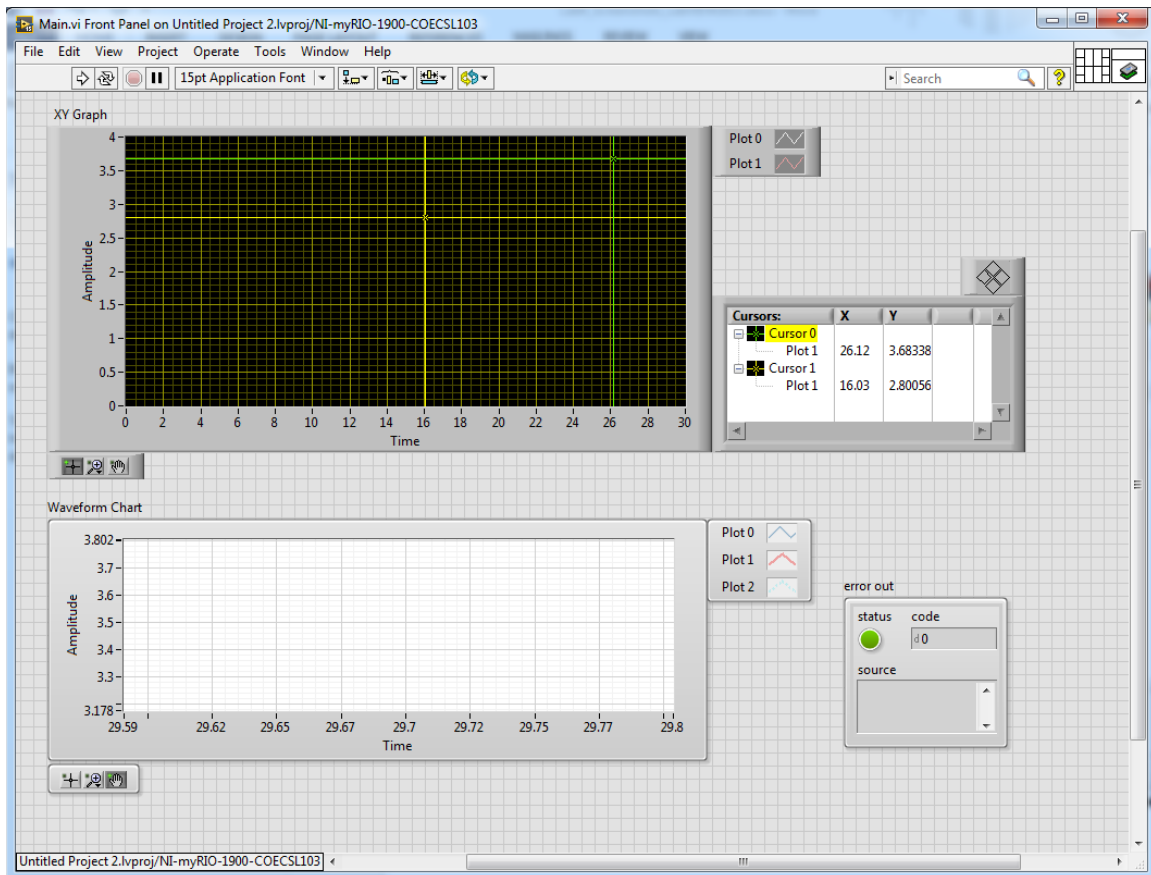

Figure 4 - Front Panel for the myRIO program
- You will be building a program in LabVIEW to generate a step response input to the motor and record the voltage data from the tachometer. The final Block Diagram and Front Panel are provided in Figures 4 and 5, respectively. Most of the blocks have already been created for you. You will only need to add the ones listed in red.
- Wire the blocks up to match Figure 4.